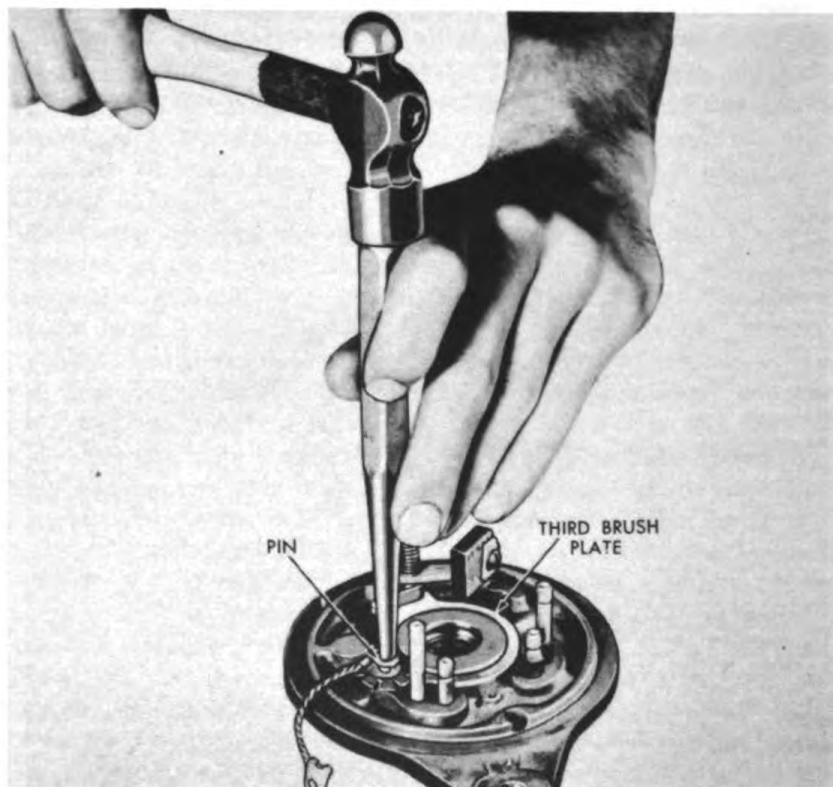

Figure 267. Installing Attaching Pin.
- b. Before mounting third brush plate, note the relationship of the third brush plate and the frame, and attach the third brush plate with a clamp screw and lockwasher. Fasten the third brush spring and ground lead to the frame with the attaching pin using a hammer and punch. See figure 267.